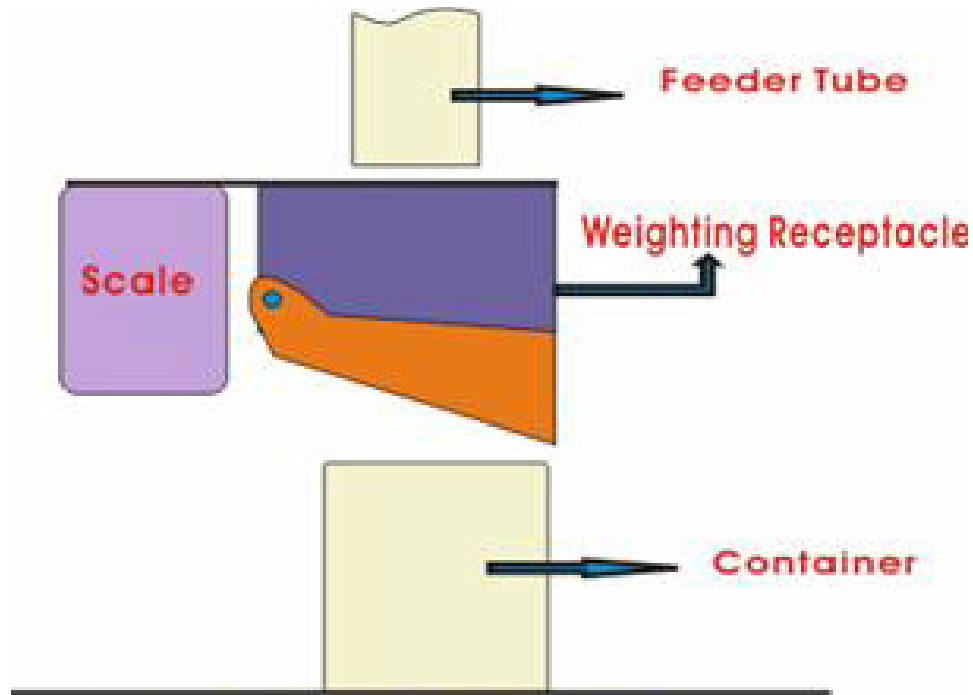

Figure 20.27 Net weight fill
- Each product load is weighed separately in the filling machine before it is loaded into the container (Fig.20.27).